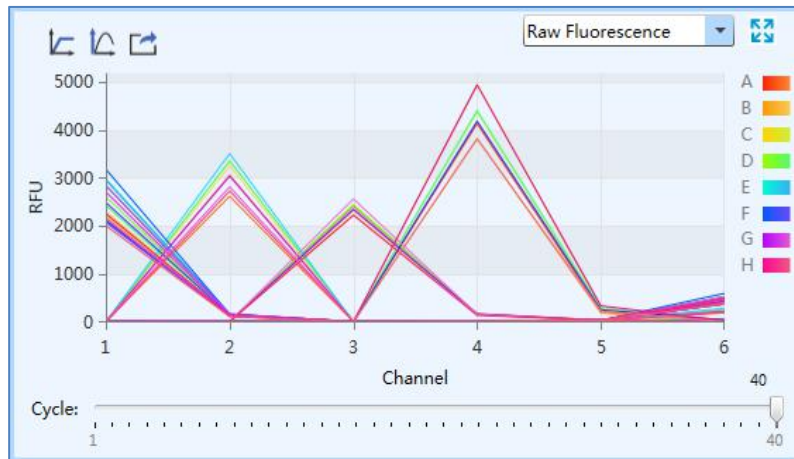

Figure D-9.6 Abs Quant analysis interface - Raw Fluorescence functional module
- VI. Raw Fluorescence:** display the raw fluorescence data map of the current experiment, as shown in figure D-9.6.